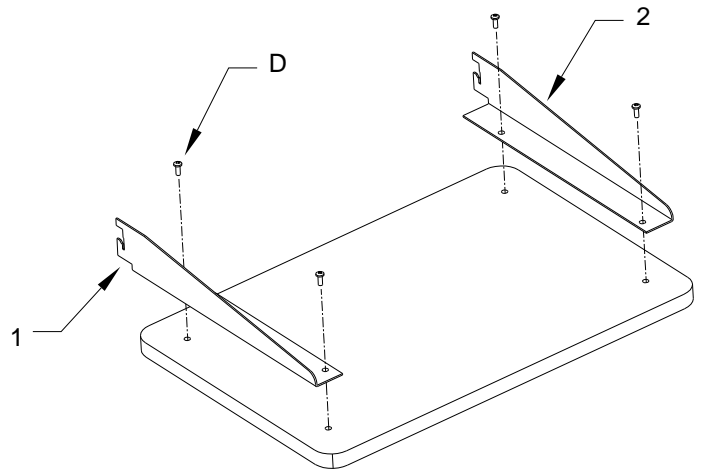

Figure 8
9. Attach the Laptop Shelf Brackets to the Laptop Shelf. See Figure 8.